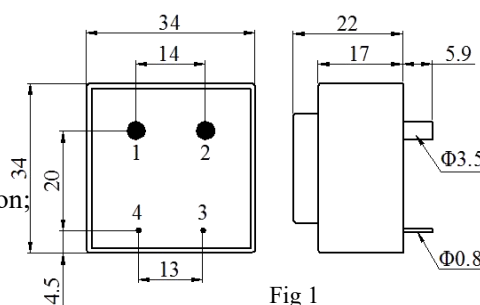

Fig 1
- ① Outline drawing and installation dimensions are shown in Figure 1 :